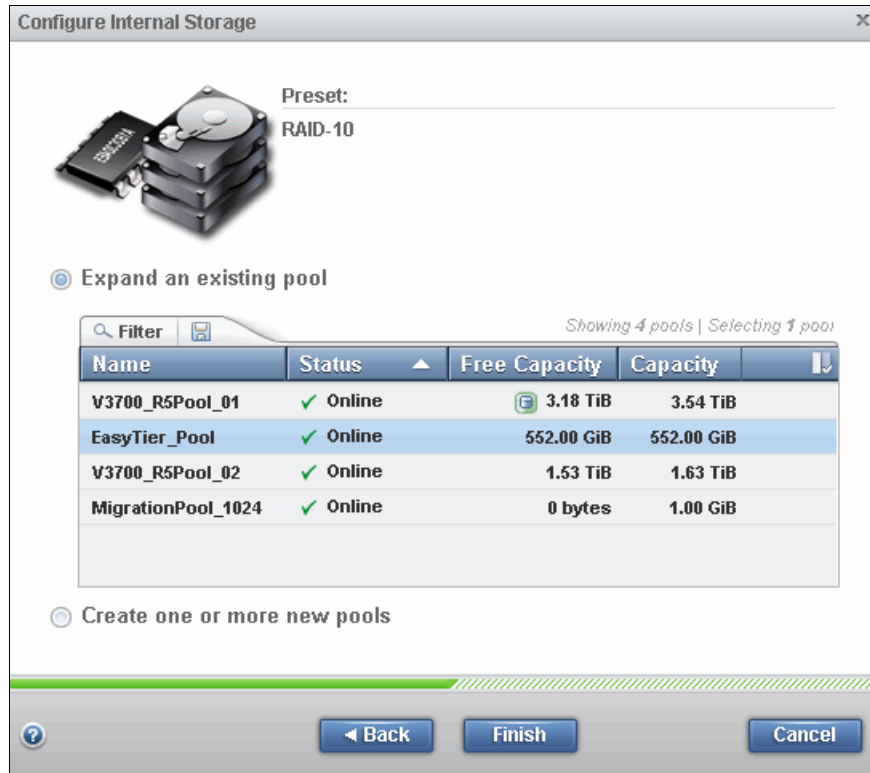

Figure 9-19 Configure Internal Storage window
- As shown in Figure 9-19, select **Expand an existing pool** and select the pool that you want to change to a multitiered pool. In this example, EasyTier_Pool1 is selected.